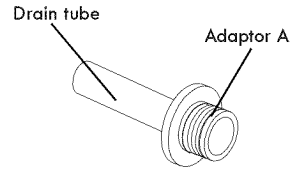

Figure 9
- Attach the drain tube to the adaptor A securely. (See Fig.9, placed in the bucket).